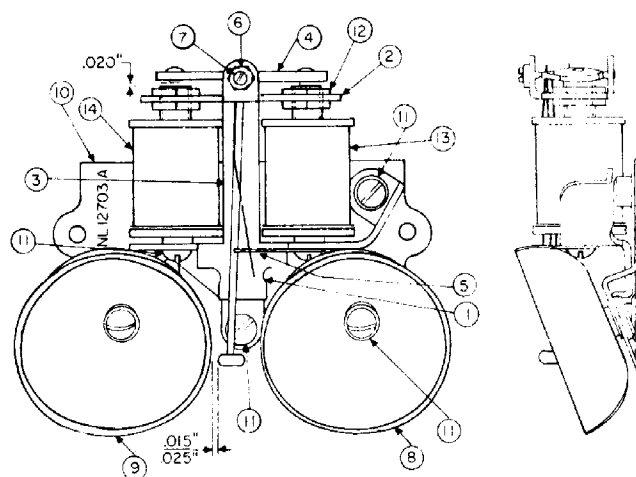

Figure 2. Type 38 Ringer.
5.01 The Type 38 Ringer (Figure 2) is used in the Type 900 Magneto telephone set. Its basic components consist of an armature assembly, gong assembly, bias adjuster, ringer magnet, yoke assembly, heelpiece and gong mounting plate. This ringer assembly is equipped with three optional coils. For a complete description of the components, part numbers, and coil options, refer to Table 4.
5.02 To disassemble the Type 38 Ringer (Figure 2), proceed as follows:
- (a) Remove the securing screws (item 11) from the center shell of the right and left gong (items 8 and 9) to free the gongs.
- (b) Lift the bias spring from the bias adjuster (item 5) teeth, then remove the armature pivot screw (item 7) and carefully guide the clapper rod and bias spring through the round hole on the coil support bracket.
- (c) Disconnect the ringer and gong mounting plate (item 10) from the heelpiece (item 1) by removing the two screws (item 11) from the flanges of the heelpiece.
- (d) Remove the two screws (item 11) from under the base of the heelpiece support. After the right securing screw is removed, remove the bias adjuster (item 5). Use a small flat 1/2-inch open ended wrench to loosen and remove the two nuts (item 12) from the top side of the armature support bracket.
- (e) Pull the armature support bracket upward to free it from the two threaded coil core studs. Remove the remaining two nuts (item 12) to free the right and left coil (items 13 and 14).
- 5.03 To assemble the Type 38 Ringer (Figure 2), proceed as follows:
- (a) Align the holes under the round fiberboard coil support of the right and left coil (items 13 and 14) parallel to the two holes on the base of the heelpiece (item 1).
- (b) Place the bias adjuster (item 5) over the right coil-mounting hole. Insert each of the coil screws (item 11) from the bottom of the heelpiece base and fasten.
- (c) Insert the two hexagon nuts (item 12) over the threads of the two coil core supports. Position the armature support bracket over the two threaded coil core studs. Replace the other two hexagon nuts (item 12) over the coil core studs and tighten.
- (d) Align the heelpiece with the ringer and gong mounting plate (item 10). Install the two mounting screws (item 11) and fasten.
- (e) Carefully guide the clapper assembly and bias spring through the round hole of the armature support bracket. Place the flat edge of the armature assembly (item 4) against the protruding pivot point on the rear flange of the armature support bracket.
- (f) Install the armature adjusting screw (item 7) and nut (item 6) and fasten. Position the bias spring in one of the teeth of the bias adjuster (item 5).
- (g) Place the gongs (items 8 and 9) on the two bottom flanges of ringer and gong mounting plate and insert the two screws and washers and fasten.